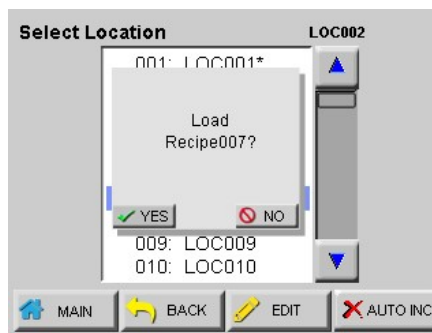

Figure 5-55 Location - Load Recipe
- When selecting a location that has an associated recipe, the user is prompted to load the recipe (as shown in Figure 5-55). If the user chooses to not load the recipe, the location can be used with the instrument current settings.